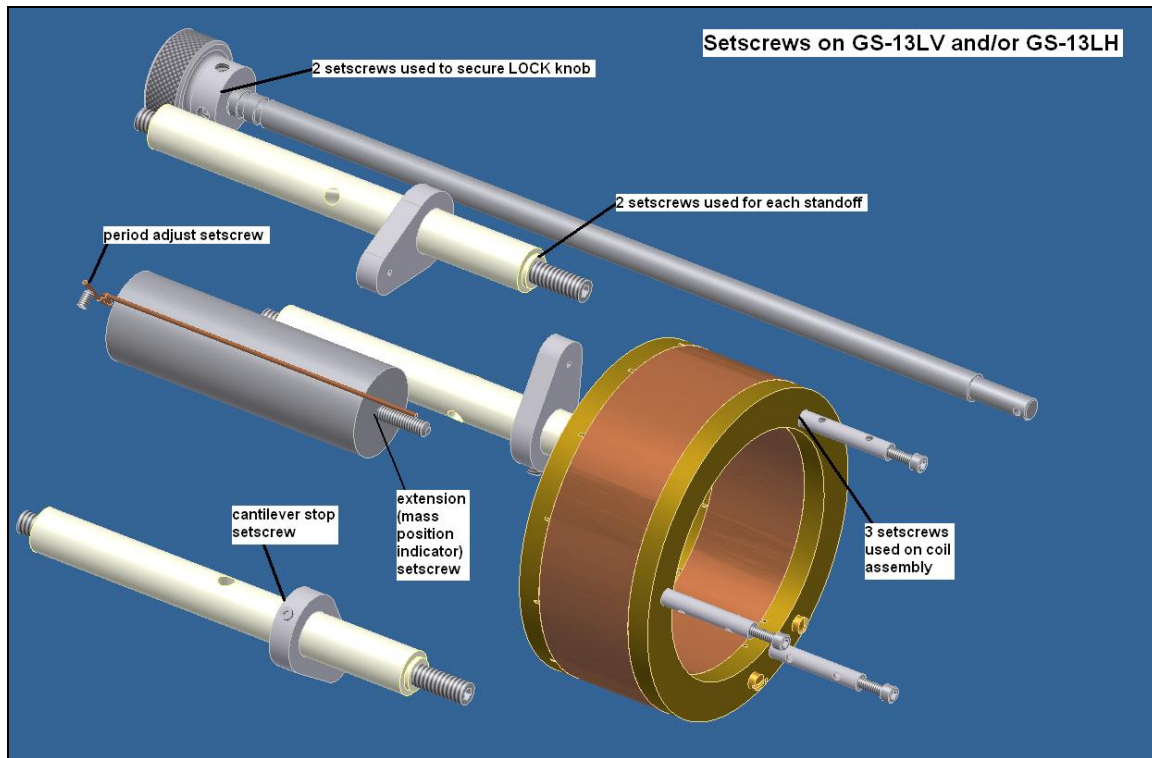

Figure 1. Setscrews Used on GS-13.
- 1) *Setscrews secured with thread-locker.* Figure 1 shows all setscrews used in GS-13 (horizontal units don't have all of those present). All assembly drawings will be reviewed to ensure compliance.